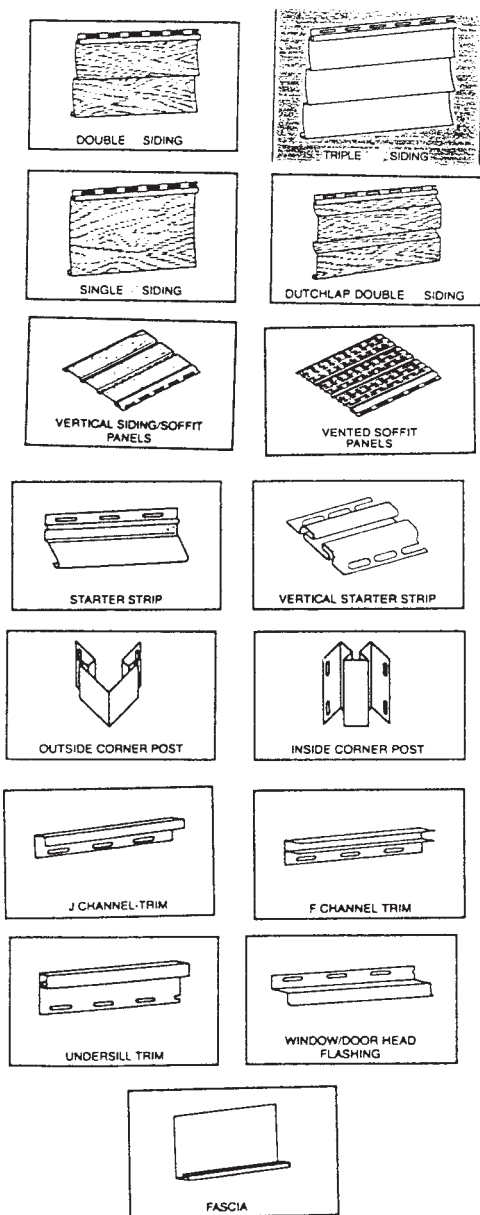

FIG. 5 Typical Trim Products
- 7.4.3 *Trim Channels*—Produced of poly(vinyl chloride) in a variety of designs and sizes for use around openings and edges of wall and soffit surfaces. (See Fig. 5.)